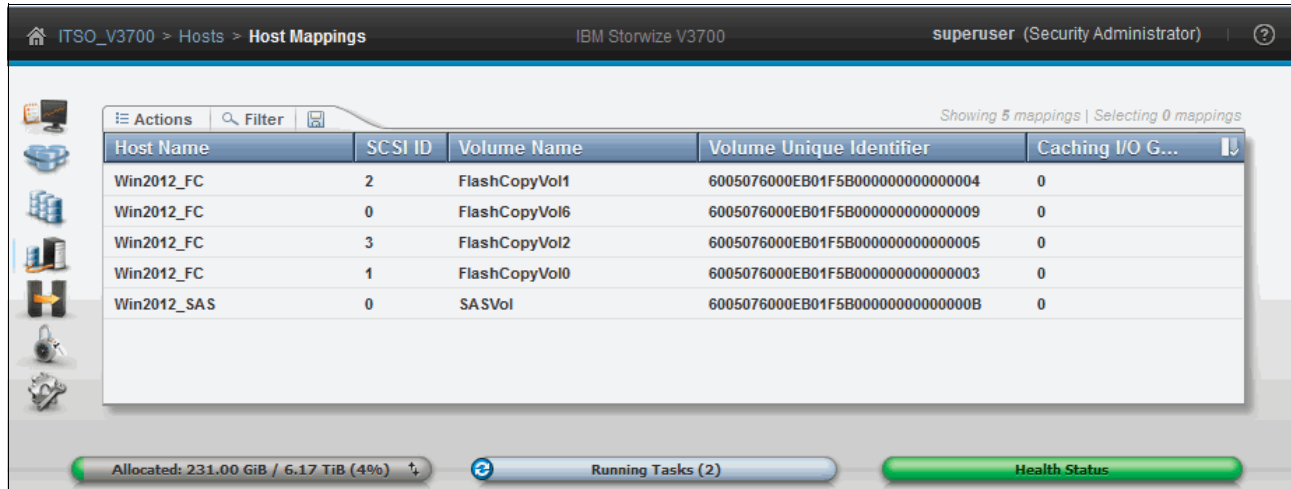

Figure 8-36 Host mappings
1. Select **Host** → **Host Mappings** to open the Host Mappings pane, as shown in Figure 8-36.
The Host Mapping pane shows a list of mapped hosts and volumes, along with their respective SCSI ID and Volume Unique Identifier (UID). Figure 8-36 shows the host Windows2012_FC has four mapped volumes (FlashCopyVol0, 1, 2 and 6), and the associated SCSI ID (1, 2, 3 and 0), Volume Name, UID, and Caching I/O Group ID.